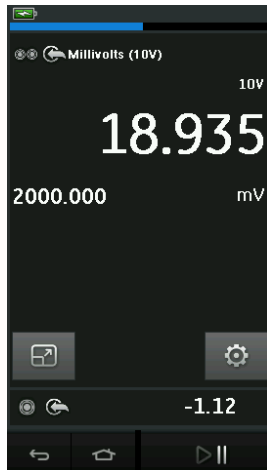

Figure 2-18: Calibration Window - Expanded View
- Figure 2-18 displays an expanded view of the selected channel and minimizes the remaining channels.